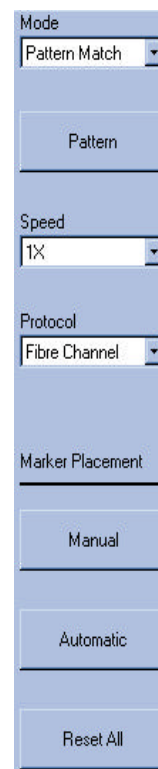

Figure 2. Armgen Main Dialog Bar
- 1) On the Armgen Dialog bar (See Figure 2) go to **Mode** and select "Pattern Match".
- 1) On the Armgen Main Dialog bar (See Figure 2) go to **Mode** and select “Edge Count”.